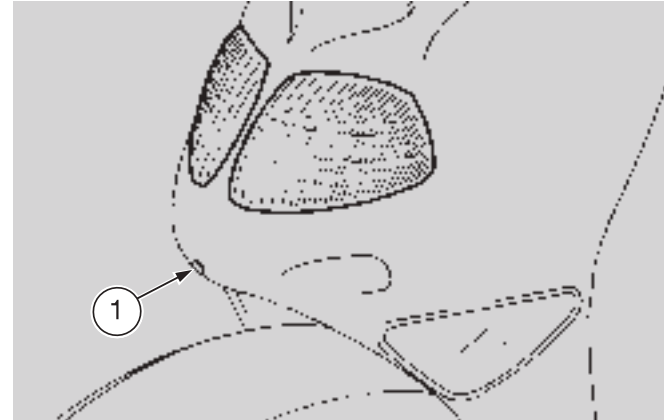

Fig. 48
- ◆ Act on the suitable screw (1-Fig. 48) by means of a screwdriver.